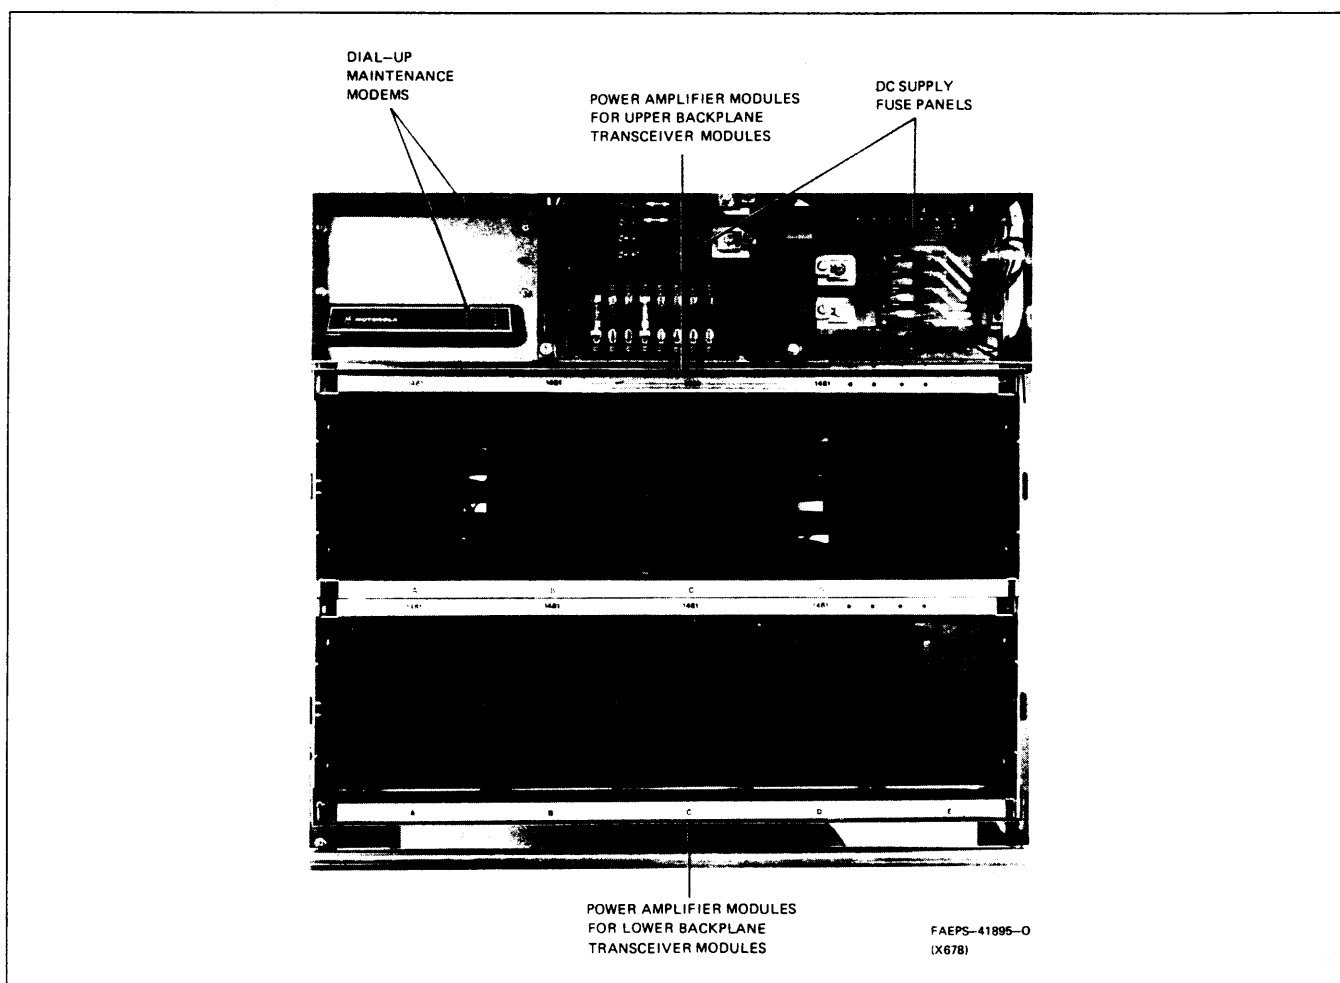

Figure 1. Power Amplifier Modules Mounted in Cages (Fan Panel Removed)
1.2 As shown in Figures 1 and 2, the base station rack contains two PA cages, both enclosed by a cover panel which houses three cooling fans. Each cage contains up to five PA modules. The inputs to each PA (labeled A thru E) are provided by coax cables which connect to the appropriate transceiver module via cannon connectors at the backplanes. Figure 3 provides detailed interconnection information for the PA modules.